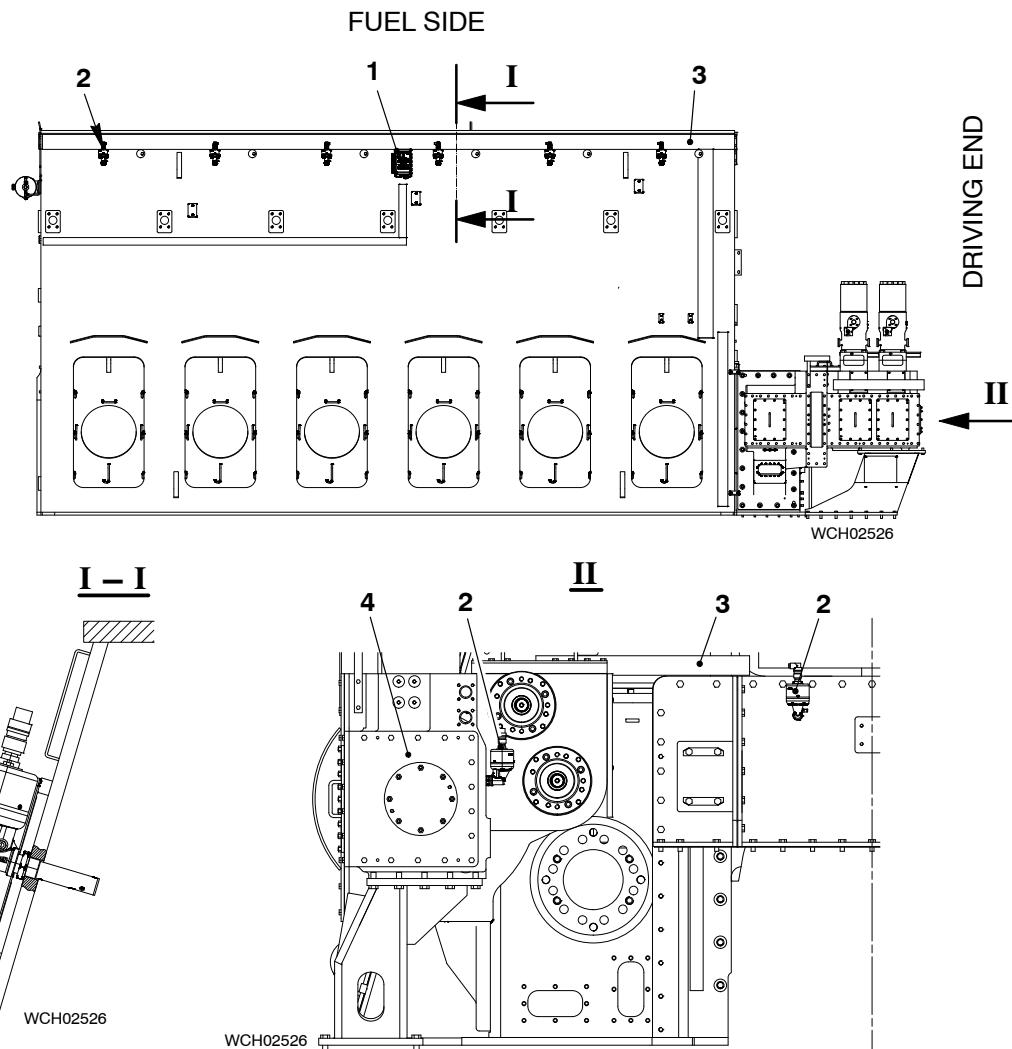

Fig. 1: Location of Sensors
The engine has an oil mist detection system. The system includes the sensors (2) and the control unit (1) on the engine (see Fig. 1).